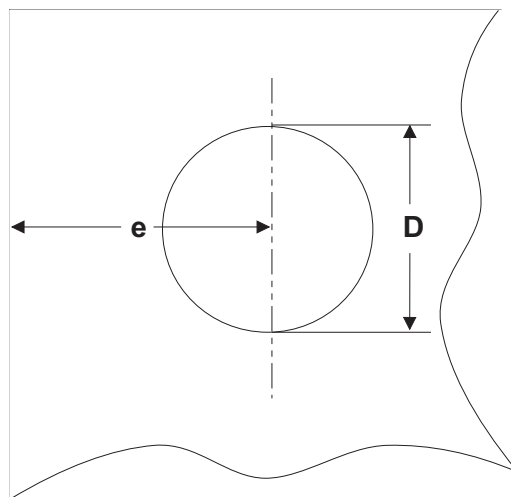

Figure 2-01 — Edge Margin Spacing
- 2.3 **Edge Margin** - Edge margin (e/D) is the ratio of the shortest distance between the center of the hole and the edge of the part. Reworking of fastener holes tends to reduce the edge margin. Fatigue testing has shown edge margins of 1.75 or greater are preferred. Use of an interference fit fastener is recommended for edge margins between 1.25 and 1.75. Ref. Fig. 2-01.